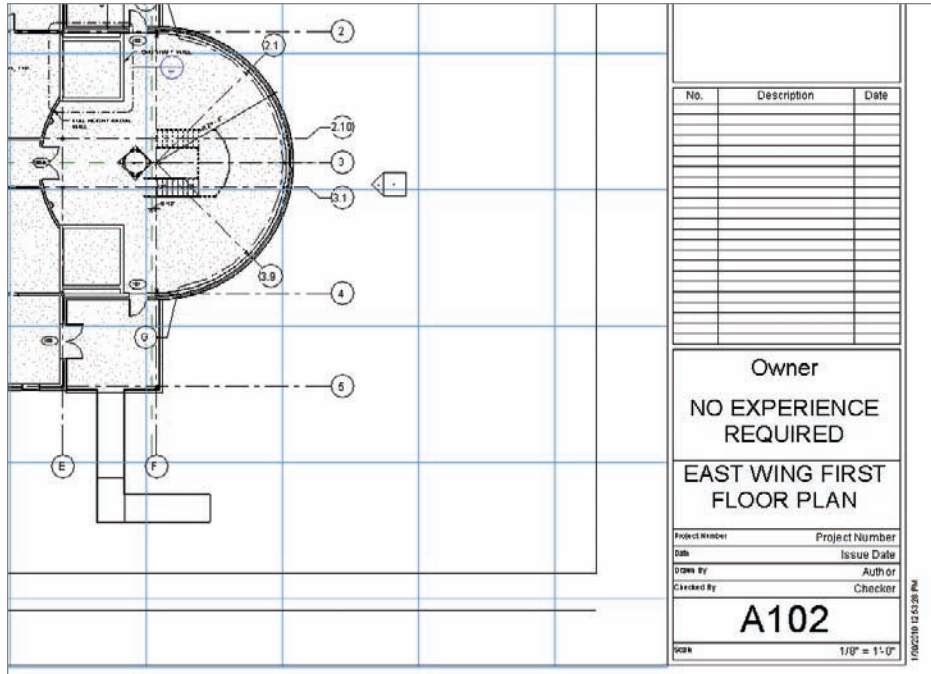

FIGURE 14.7 Changing the title block information
1. With Sheet A102 opened, zoom into the right side of the view, as shown in Figure 14.7.
4. Click into the text that says Unnamed and type **EAST WING FIRST FLOOR PLAN** (see Figure 14.7).